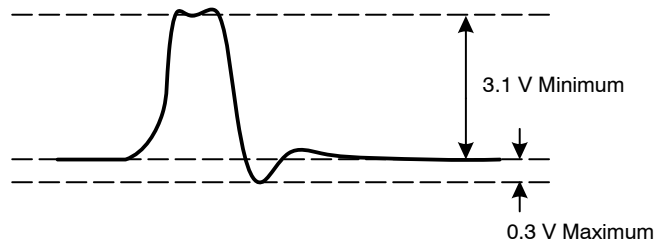

Figure 17. RG Clock Overshoot
- Reset Clock Operation: The RG1, RG2, and RG3 signals must be capacitive coupled into the image sensor with a 0.01 μF to 0.1 μF capacitor. The reset clock overshoot can be no greater than 0.3 V, as shown in Figure 17, below: